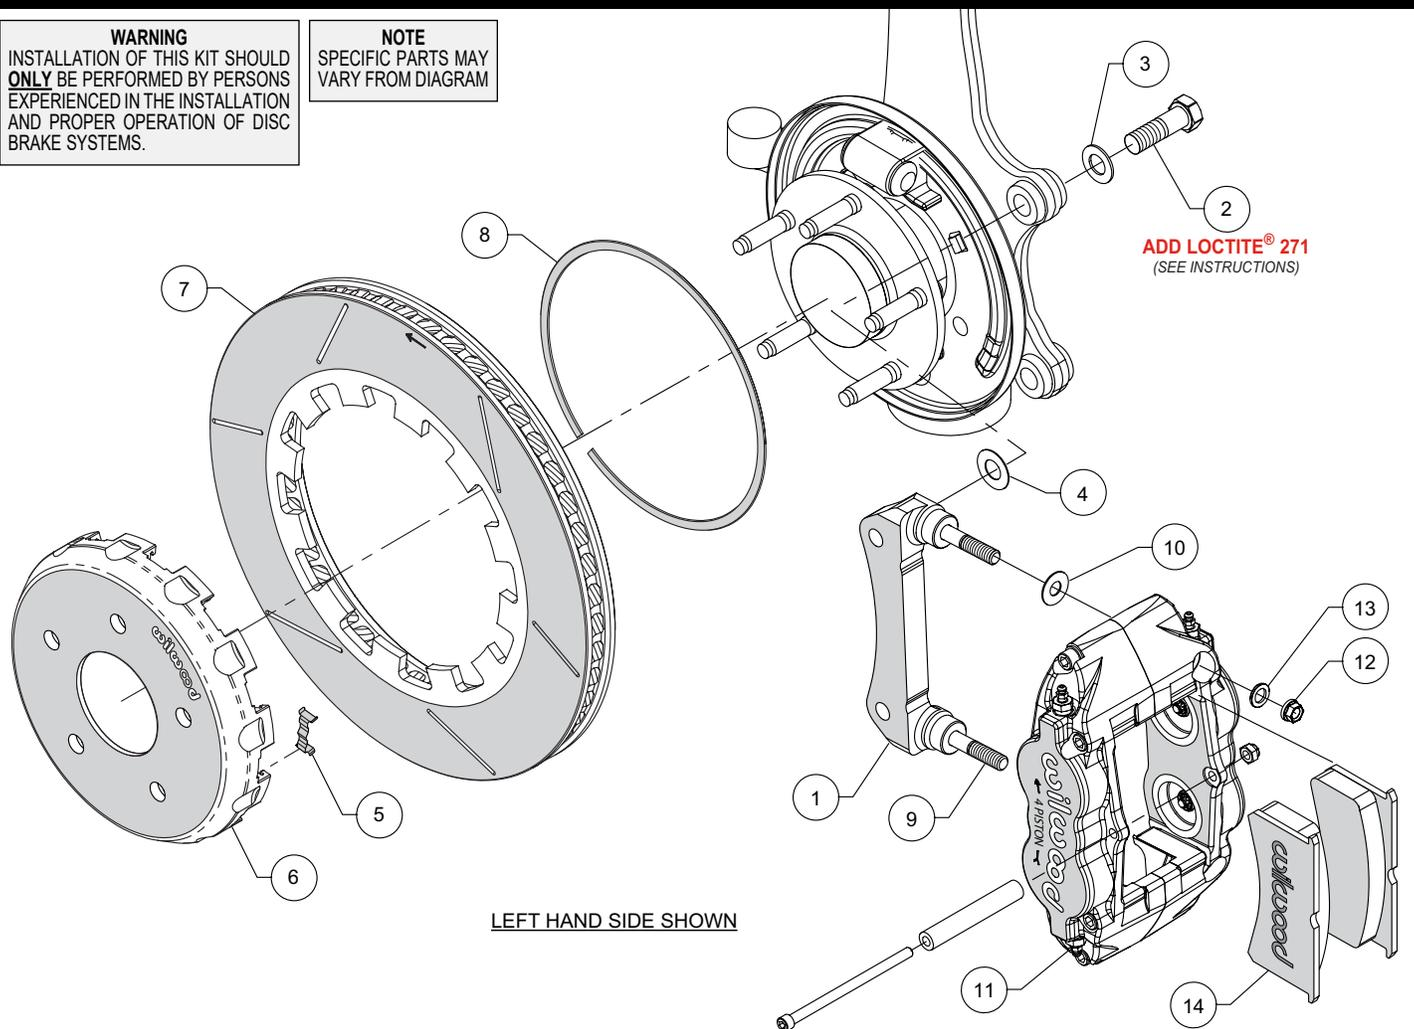

Figure 1. Typical Installation Configuration
**NOTE:** Numbers in parenthesis refer to the parts list and Figure 1 on the preceding pages.
- The caliper mount bracket (1) should initially be installed with clean, dry threads on the mounting bolts. Orient the bracket, as shown in Figure 1 and Photo 1, and install using bolts (2) and washers (3). Initially place one .029" thick shim (4) on each bolt between the bracket and upright, Figure 1. Temporarily tighten the mounting bolts. **NOTE:** *The bracket must fit squarely against the mount bosses on the upright.* Inspect for interference from casting irregularities, machining ridges, burrs, etc. Later, after the caliper alignment has been checked, the mount bolts will be secured using red *Loctite*® 271.
- Insert the dynamic mount wear clips (5) into the slots in the hat (6), Photo 2. Orient the rotor (7) as shown in Figure 1 and Photo 3, with the flush side of mount lugs facing the hat. Secure the rotor to the hat using the snap ring (8) by simultaneously pushing down on the rotor and installing the ring into the groove in the hat, as shown in Photo 4. Carefully inspect snap ring to ensure complete engagement in the groove.
- Initially place one .035" thick shim (10), on each stud (9) as shown in Figure 1 and Photo 6. Mount the caliper (11) onto the bracket (1) using lock nuts (12) and washers (13), Figure 1. Temporarily tighten the lock nuts and view the rotor through the top opening of the caliper. The rotor should be centered in the caliper, Photo 7. If not, adjust by adding or subtracting shims (4) between the bracket and the upright. Always use the same amount of shims on each of the two mounting bolts. Once the caliper alignment is correct, remove the bracket mounting bolts (2) one at a time, apply red *Loctite*® 271 to the threads, and torque to 77 ft-lb.
- Remove the caliper pad retainer bolt, nut, and tube from the caliper. Insert the brake pads (14) into the caliper, with the friction material facing the rotor, as shown in Photo 8. Check that the top of the brake pad is flush with the outside diameter of the rotor, Photo 9. If not, adjust by adding or subtracting shims (10) between the caliper and the bracket. After the caliper pad height is set, reinstall the pad retainer tube, bolt, and lock nut. The lock nut should be snug without play in the bolt or tube. Be cautious not to over tighten. Torque the caliper lock nuts (12) to 30 ft-lb.